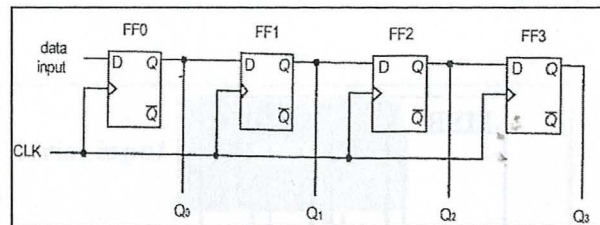

Figure 2(a)
- 2) Sketch the expected waveforms of the 4-bit binary number 1101 which were shifted in serial into the shift register as in Figure 2(a) that initially contains all 0s.